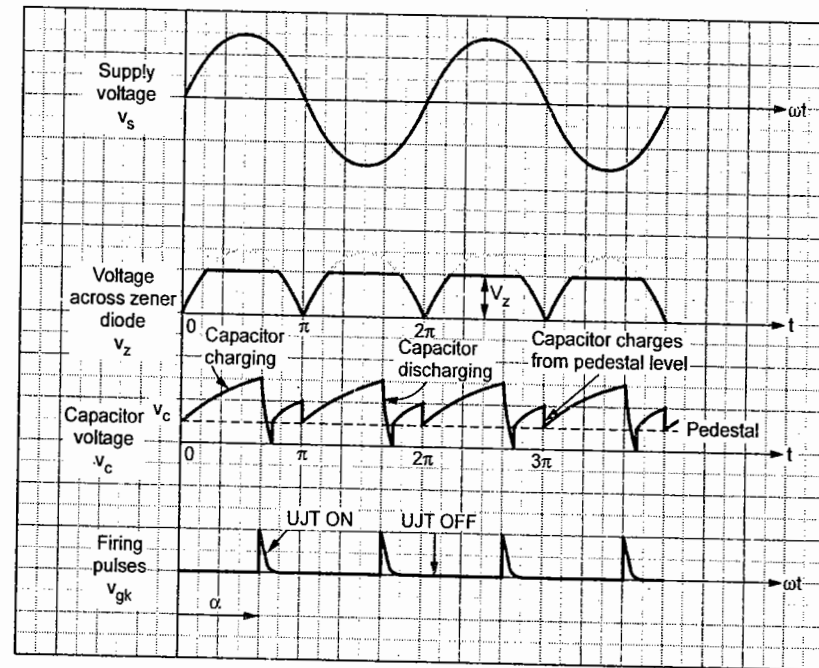

Fig. 2.6.6 Waveforms of UJT triggering circuit
- The supply voltage is rectified and given to the zener regulator. The voltage of zener diode is V_z . The zener diode clamps the rectified voltage to V_z as shown in the waveforms of Fig. 2.6.6. Hence voltage V_z is applied to the UJT circuit.
- The pedestal control indicates initial voltage level in the capacitor. It can be adjusted through resistance R . The ramp control indicates charging of capacitor from pedestal level. The waveforms of Fig. 2.6.6 shows these levels.
- i) The capacitor charges through resistance R_c . When the capacitor voltage becomes equal to V_p , the peak voltage of the UJT, it turns-on. The capacitor discharges through emitter (E), base (B_1) and primary of pulse transformer. The UJT is turned-on when the capacitor discharges. Since current flows through the primary of pulse transformer, a pulse is generated. This pulse as shown in Fig. 2.6.6 is the gate triggering pulse.
The capacitor voltage waveform and UJT output are shown in the above figure. From Fig. 2.6.6, it is clear that triggering angle will be,